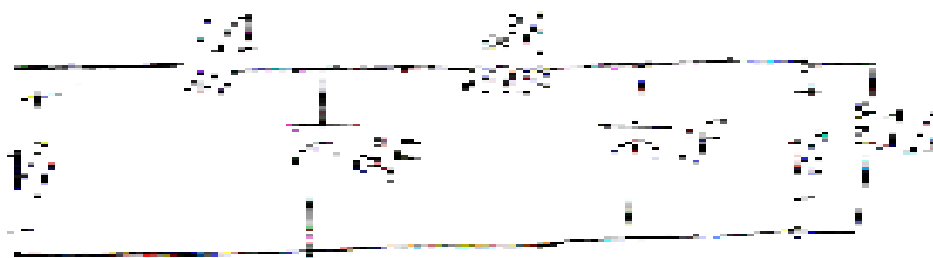

Fig. 4
- c) Find voltage ratio transfer function  $\frac{V_o}{V_i}$  for the circuit shown in Fig. 4. 8